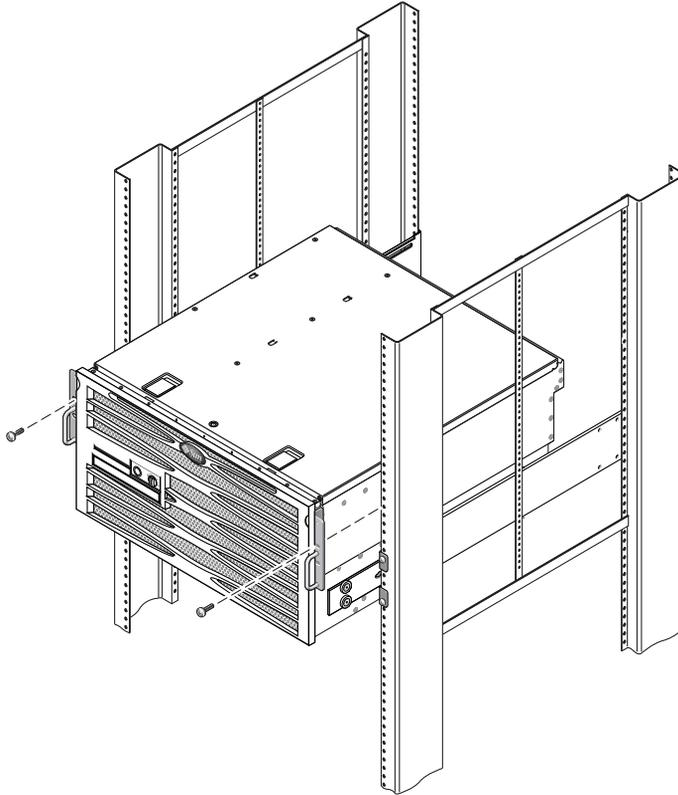

FIGURE 3-14 Securing the Front of the System to the Rack
- Using one screw per side, secure the front of the hardmount brackets that are attached to the sides of the server to the front of the rack (FIGURE 3-14).